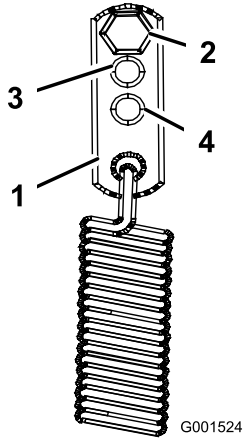

Figure 40
- For a heavier drive setting, relocate the spring anchor links to either the medium or heavy duty positions (Figure 40). The spring anchor links are attached to the upper rear corner of the hydro drive shields on the left and right sides of the machine.